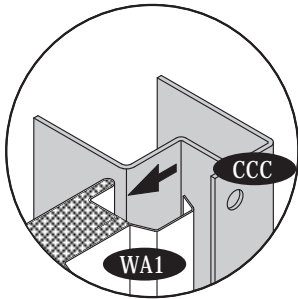

Fig.1
17. Slide the corner column (CCC) into the wall panel edge. See fig.1&2. Lineup the holes with base 'U' channel and secure with (S1) screws from out side. See fig.3. Make sure the wall panel must be inserted fully into the column. See top view.